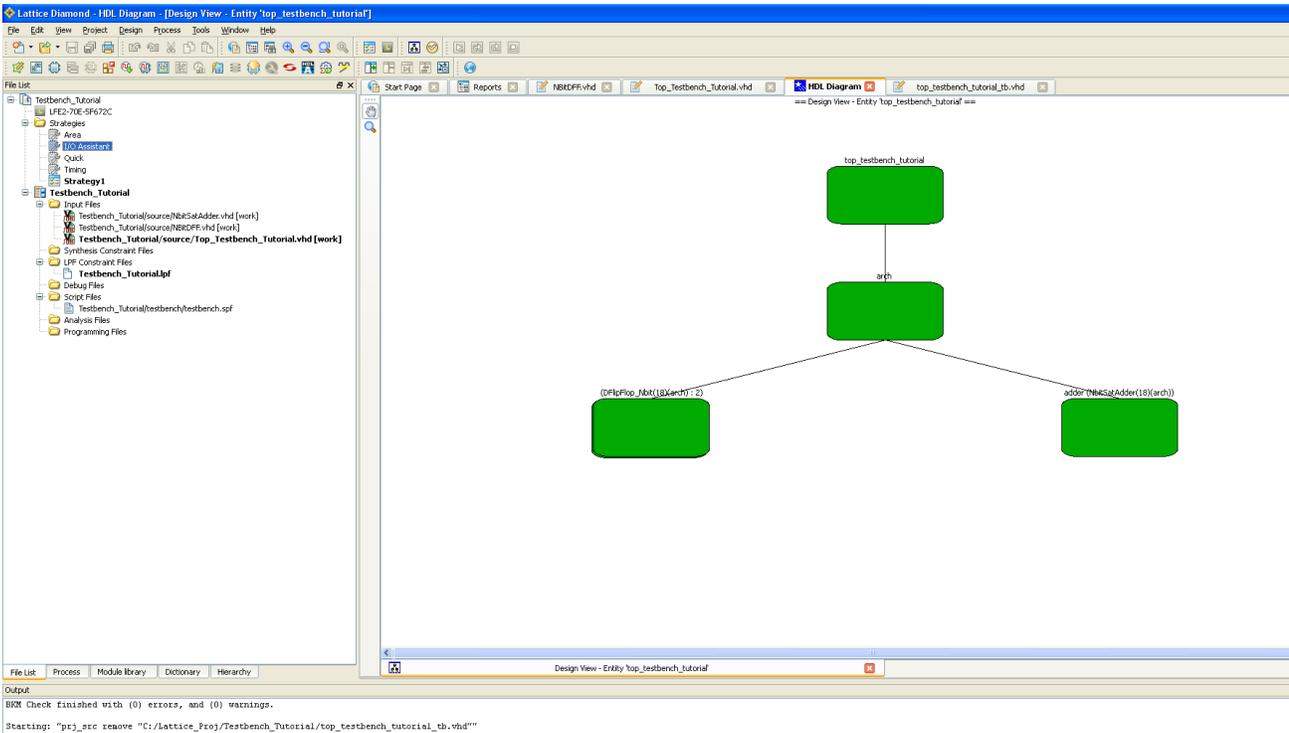

Figure 3 – Design View with Generated Hierarchy
9. At this point you should see the Design View with VHDL components arranged in a hierarchy. Now click on the “Run BKM Check” or click Design --> Run BKM Check. The VHDL modules should now be green to show (0) errors and (0) warnings. This can be seen in Figure 3 below.